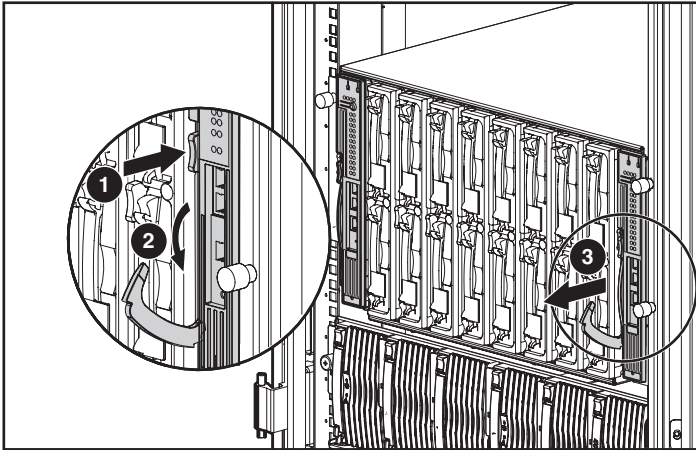

Figure 3 Interconnect switch removal
2. Remove the Interconnect switch by releasing the latch (1 and 2 in Figure 3) on the front and sliding it out of the enclosure (3).